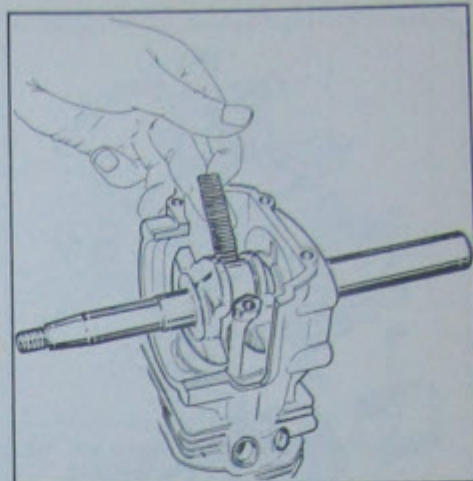

Fig. 47 Fitting needles bearing
- Place the cylinder-piston-con-rod crankshaft block on a plane (as shown in Fig. 47) and turn piston to BDC.